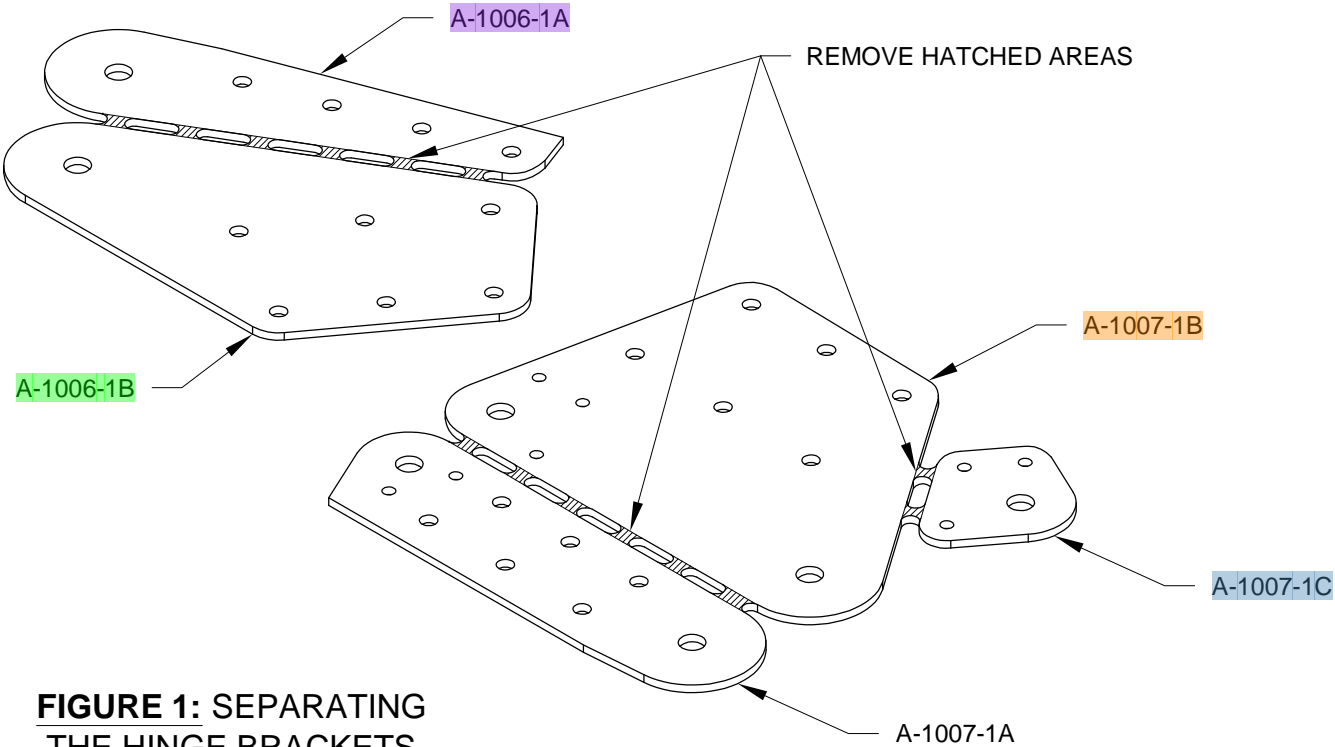

FIGURE 1: SEPARATING THE HINGE BRACKETS
Step 1: Separate the A-1006-1 Outboard Hinge Brackets into parts A and B. Separate A-1007-1 Inboard Hinge Brackets into parts A, B, and C. See Figure 1.